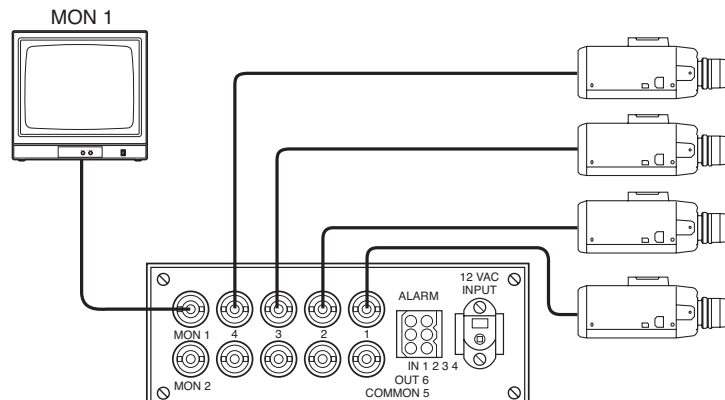
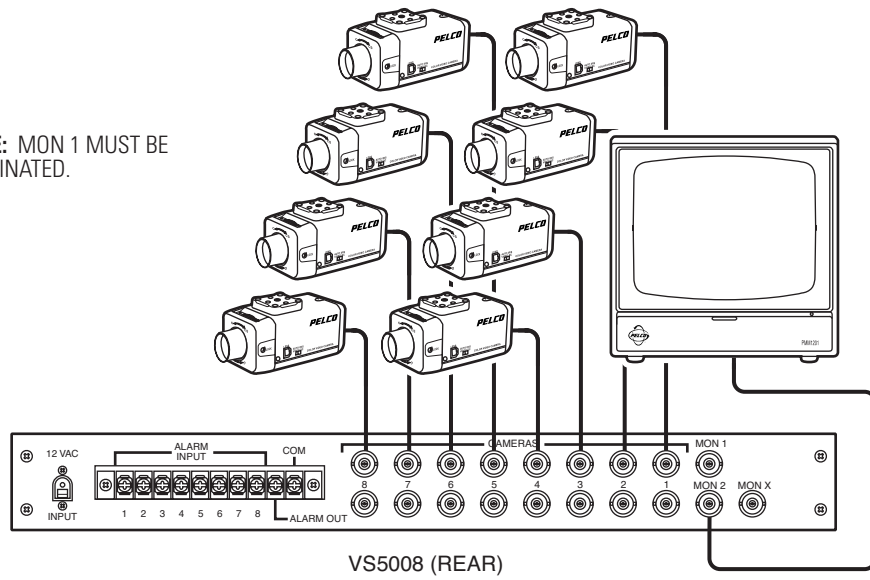

Figure 1. VS5004 Terminated Camera Inputs - One Monitor
Figure 2. VS5008 Terminated Camera Inputs - One Monitor
1. Make all equipment connections. Refer to Figure 1 (VS5004) or Figure 2 (VS5008).